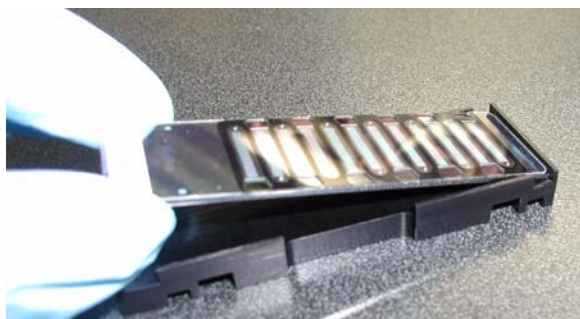

Figure 35 Placing BeadChips into Hyb Chamber Inserts
4. Place each BeadChip in a Hyb Chamber insert, orienting the barcode end so that it matches the barcode symbol on the Hyb Chamber insert (Figure 35).